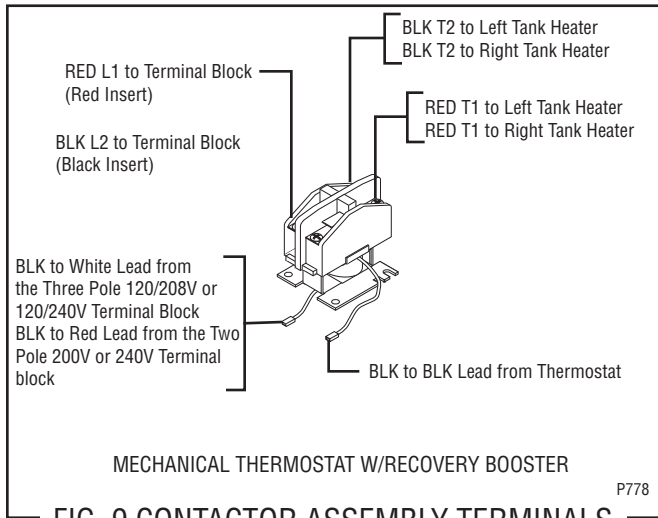

FIG. 9 CONTACTOR ASSEMBLY TERMINALS
4. Refer to Fig. 9 when reconnecting the wires.